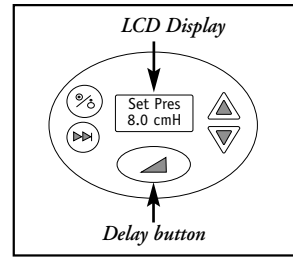

Figure 8
4. Press the Delay button **Figure 8** to start the pressure delay cycle if prescribed. Pressure will decrease to the Delay Pressure setting and return to the prescribed Set Pressure after the Delay Time has expired.
4. Press the Delay button to start the pressure delay cycle, if prescribed. Pressure will decrease to the Delay Pressure setting and return to the prescribed Set pressure after the Delay Time has expired **Figure 8**.